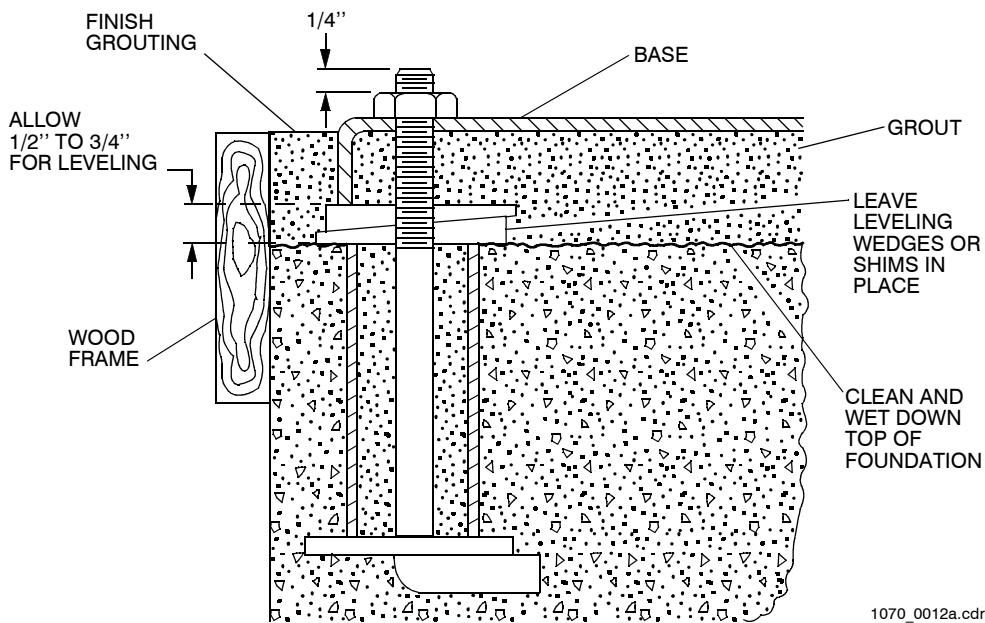

Figure 3-6. Leveling and Grouting Diagram
3. Set leveling pads, either tapered wedge or flat shim plate, adjacent to foundation bolts. Pads should be 1/2 to 3/4 inch total height for grouting as shown in Figure 3-6.
1. Construct wood frame around foundation as shown in Figure 3-6. Set height of the frame to create desired thickness of finished grout.